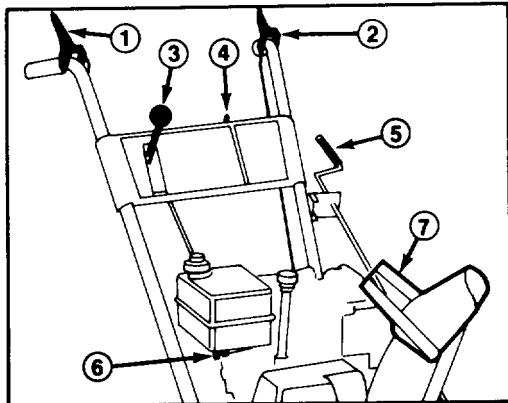

Figure 13
Auger Drive Control (Fig. 13) — Control has two positions: ENGAGE and DISENGAGE. To engage auger and impeller, compress lever against right handle grip. To disengage, release lever.
Traction Control (Fig. 13) — To achieve traction, lever must be compressed against left handle grip. To stop traction, release lever.
Speed Selector (Fig. 13) — The control has four positions: reverse, 1, 2 and 3. To change speeds, move gear shift to position desired. Lever will lock in notch at each speed selection. Use positions 1, 2, and 3 depending on snow conditions.
Ignition Switch (Fig. 13) — Switch has two positions: ON and OFF. Rotate key to ON before starting engine with the recoil starter. To stop engine, rotate key to OFF.
Fuel Shut-Off Valve (Fig. 13) — Valve is located under fuel tank. Close valve to stop fuel flow from fuel tank and open valve to allow fuel to flow to the carburetor. Close valve when snowblower is not used.
Discharge Chute Control (Fig. 13) — Rotate discharge chute control clockwise to move discharge chute to the left and counterclockwise to move chute to the right.
Chute Deflector Handle (Fig. 13) — Deflector handle is on top of discharge chute, and it is used to control height of the snow stream.
3. Open fuel shut-off valve below fuel tank (Fig. 13).
5. Rotate ignition key to ON (Fig. 13).
1. Release traction and auger drive control (Fig. 13).